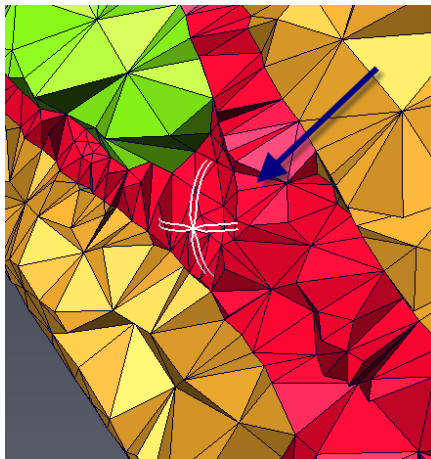

Figure 13.9: Clipping Plane Rotation Manipulator
- Click **Rotate** in order to show a dedicated manipulator located at the center of the plane (Figure 13.9). Select the manipulator with the left mouse button and rotate by moving the mouse while keeping the left mouse button pressed.